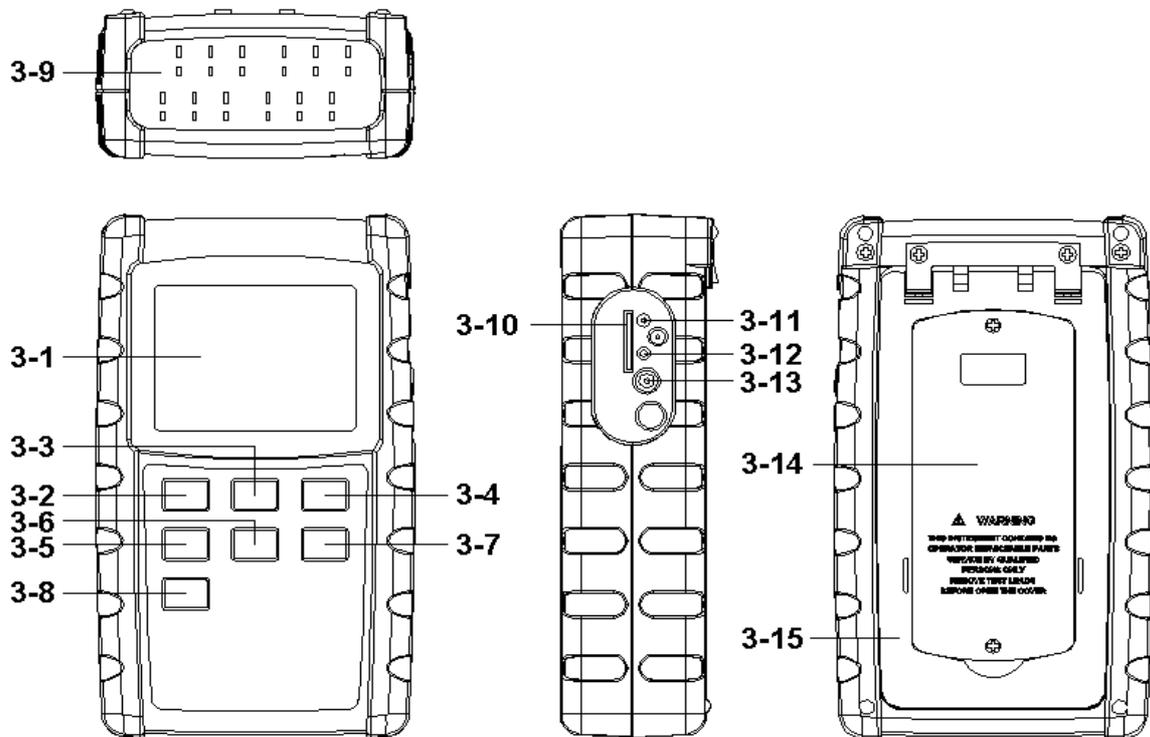

Fig. 1
1) Power on the meter by pressing the " Power button " (3-2, Fig. 1) once.
3) Insert the Type K probes into the " T1, to T12 input socket " (3-9, Fig. 1).
If intend to show the other 4 channels (CH9, CH10, CH11, CH12) temperature value, just press the " Page Button " (3-6, Fig. 1) once, the Display will show those channels' Temp. value following, press the " Page Button " (3-6, Fig. 1) once again, the Display will revert to the 8 channels (CH1, CH2, CH3, CH4, CH6, CH7, CH8) screen.
All the measuring procedures are same as the Type K (chapter 4-1), except to select the Temp. Sensor type to " Type J, T, R, S " by pressing the " Type Button " (3-5, Fig. 1) once in sequence until the up LCD display show the " J, K,T, E, R, S " indicator.
During the measurement, press the " Hold Button " (3-3, Fig. 1) once will hold the measured value & the LCD will display a " HOLD " symbol.
1) The data record function records the maximum and minimum readings. Press the " REC Button " (3-4, Fig. 1) once to start the Data Record function and there will be a " REC " symbol on the Display.
a) Press the " REC Button " (3-4, Fig. 1) once, the " REC MAX " symbol along with the maximum value will appear on the Display.
If intend to delete the maximum value, just press the " Hold Button " (3-3, Fig. 1) once, the Display will show the " REC " symbol only & execute the memory function continuously.
- b) Press the " REC Button " (3-4, Fig. 1) again, the " REC MIN " symbol along with the minimum value will appear on the Display.
If intend to delete the minimum value, just press the " Hold Button " (3-3, Fig. 1) once, the Display will show the " REC " symbol only & execute the memory function continuously.
After power ON, the " LCD Backlight " will light automatically. During the measurement, press the " Backlight Button " (3-2, Fig. 1) once will turn OFF the " LCD Backlight " .
insert the SD card into the " SD card socket " (3-10, Fig. 1).
Press the " REC Button (3-4, Fig. 1) once , the LCD will show the text " REC ", then press the " Logger Button " (3-7, Fig. 1), the " REC " will flashing and beeper will sound, at the same time the measuring data along the time information will be saved into the memory circuit.
During execute the Datalogger function , if press the " Logger Button " (3-7, Fig. 1) once will pause the Datalogger function (stop to save the measuring data into the memory circuit temporally). In the same time the text of " REC " will stop flashing.
If press the " Logger Button " (3-7, Fig. 1) once again will execute the Datalogger again, the text of " REC " will flashing .
During pause the Datalogger, press the " REC Button " (3-4, Fig. 1) continuously at least two seconds, the " REC " indicator will be disappeared and finish the Datalogger.
Press the " REC Button (3-4, Fig. 1) once , the LCD will show the text " REC ", then press the " Logger Button " (3-7, Fig. 1) once, the " REC " will flashing once and Beeper will sound once, at the same time the measuring data along the time information and the Position no. will be saved into the memory circuit.
- * During execute the Manual Datalogger, press the " ▲ Button " (3-5, Fig. 1) once will enter the " Position /Location no. setting. use the " ▲ Button " or " ▼ Button " (3-6, Fig. 1) to select the measuring location no. (1 to 99, for example room 1 to room 99) to identify the measurement location. After the position no. is selected, press the " Enter Button " (3-4, Fig. 1) once will save the Position/Location no. automatically.*
Press the " REC Button " (3-4, Fig. 1) continuously at least two seconds, the " REC " indication will be disappeared and finish the Datalogger.
During the normal measurement (not execute the Datalogger), If press " Time check Button " (3-8, Fig. 1) once , the left lower LCD display will present the time information of Year/Month, Date/Hour, Minute/Second in sequence.
During the normal measurement (not execute the Datalogger), If press " Sampling time check Button " (3-7, Fig. 1) once , the left lower LCD display will present the Sampling time information in second unit.